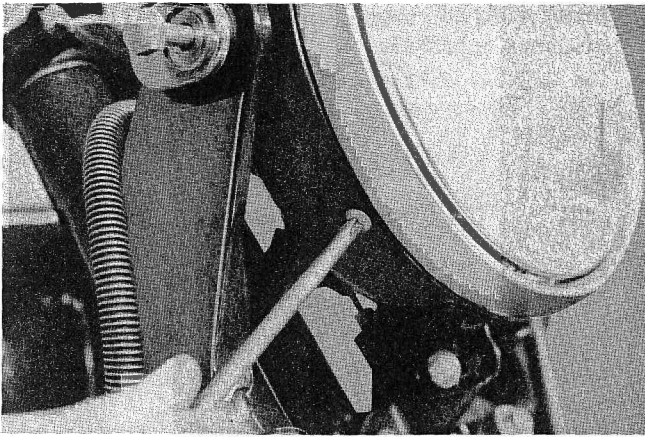

Fig. 36
29. Firmly fit the lens assembly in place. Make sure no wires are pinched. Then, secure the lens assembly with Phillips-head anchor screws. (Fig. 36)